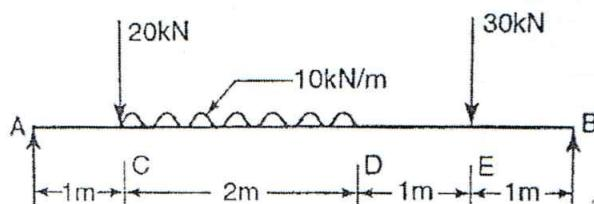

Figure Q5b
b) For the beam loaded as shown in figure Q5b, use Macaulay's method to obtain deflection and slope in the beam. Also compute the deflection at point C if $E = 200$ GPa and $I = 60 \times 10^{-6} \text{ m}^4$. 12